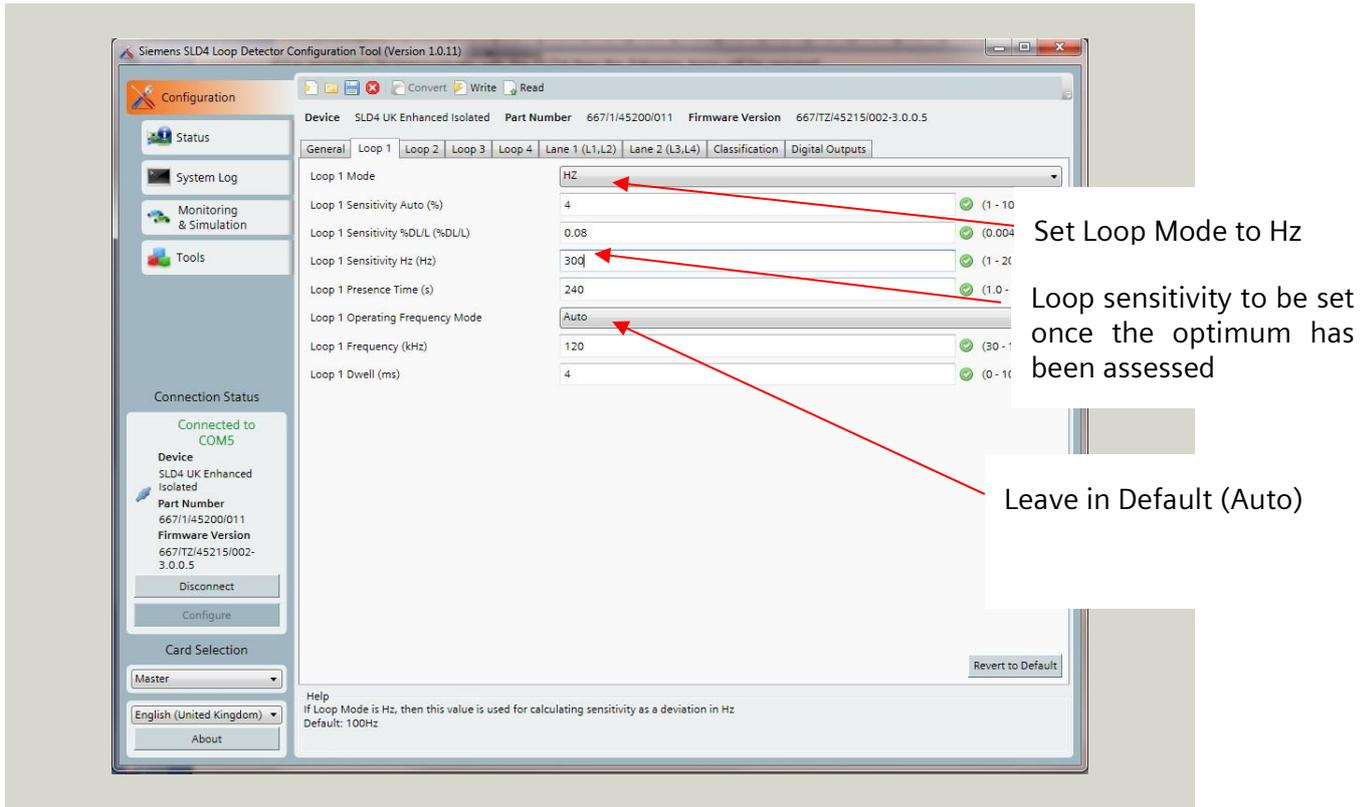

Figure 4 : Setting Loop Mode
- 3 On the Loop tab (Loop1 to 4) of the loop to be configured set the "Loop Mode" to Hz. See Figure 4 : Setting Loop Mode